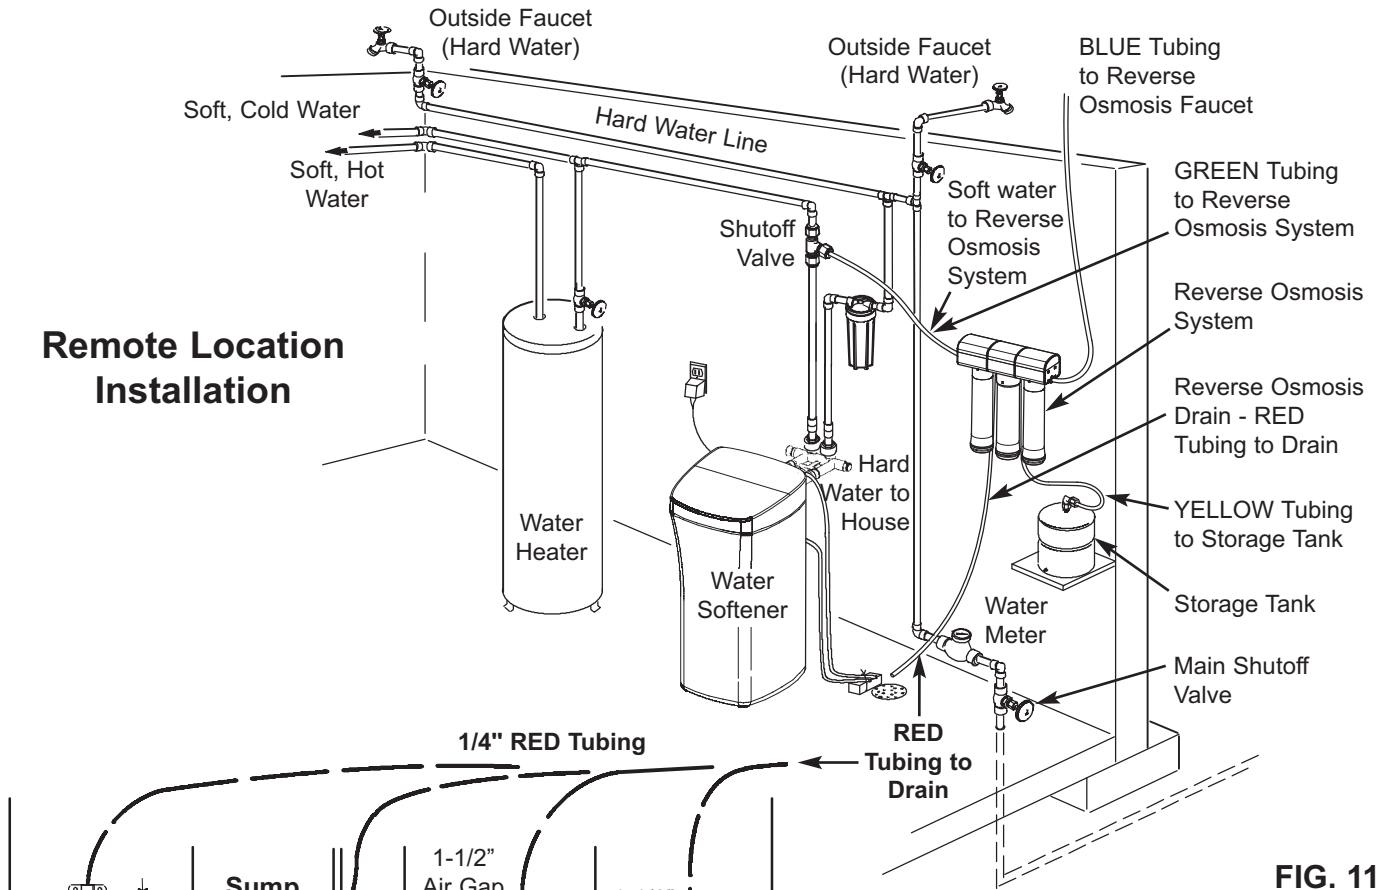

FIG. 11
As shown in Figures 11 and 12, the drain tube from the RO filter runs directly to an open drain. This is often used for remote location installations.
1. Locate the 1/4" red tubing on the Reverse Osmosis filter assembly. See Fig. 11.